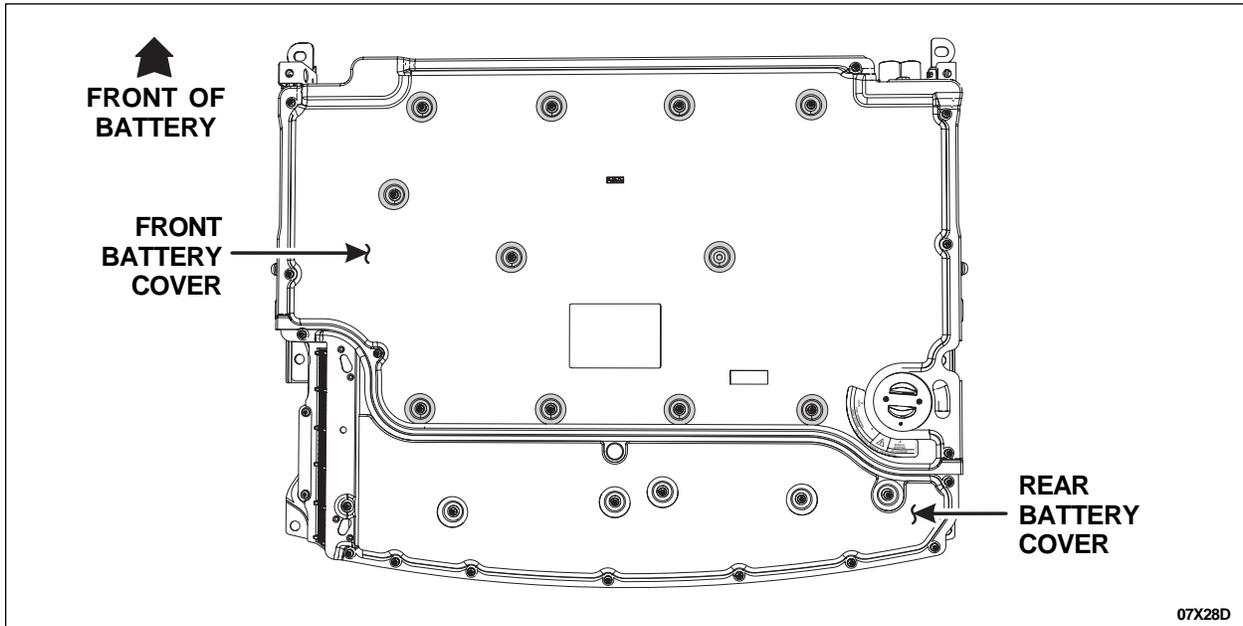

FIGURE 4
4. Remove the 18 Torx screws from the front battery cover. See Figure 4.